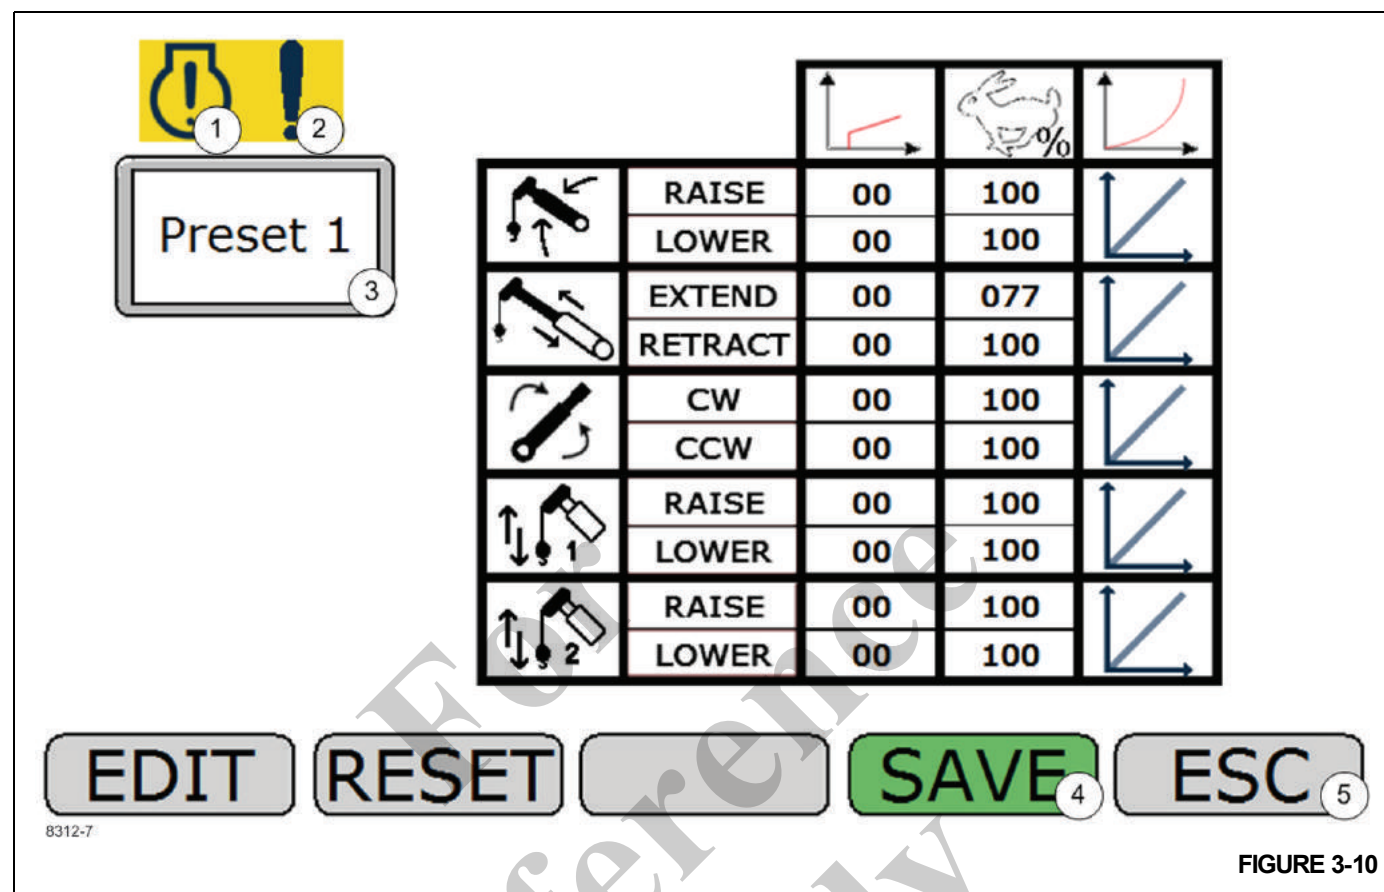

FIGURE 3-10
Modify Presets Screen 4 (Figure 3-10)
Engine Fault Active Indicator (1) (Figure 3-10)